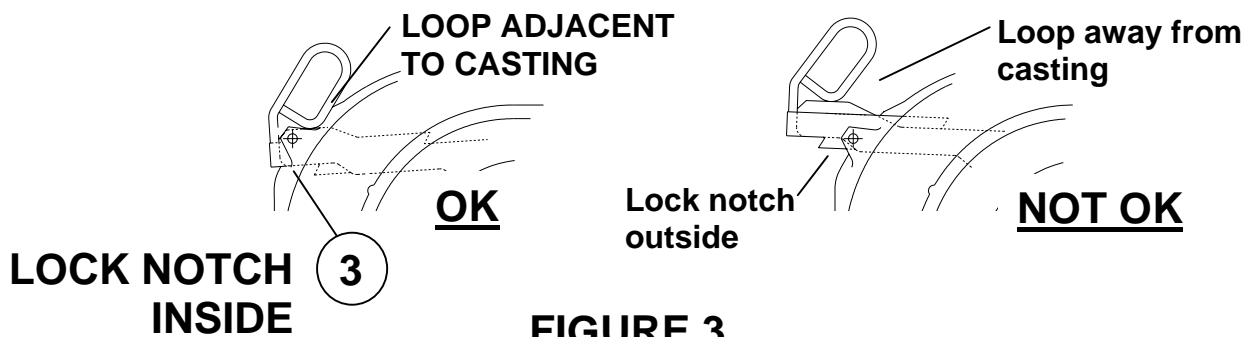

FIGURE 3
3. Check that the retractable handle **LOCK NOTCH** is **INSIDE** the casting (see figure 3).